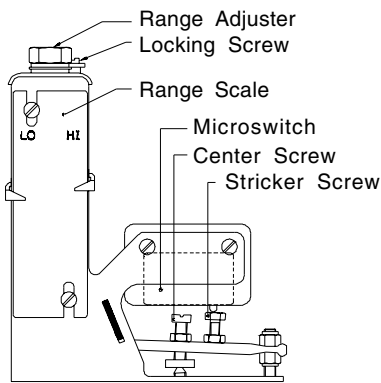

**Fig.2**
**For Models 721 / 731, 771 / 773 / 723 / 733 (Fig.2)**